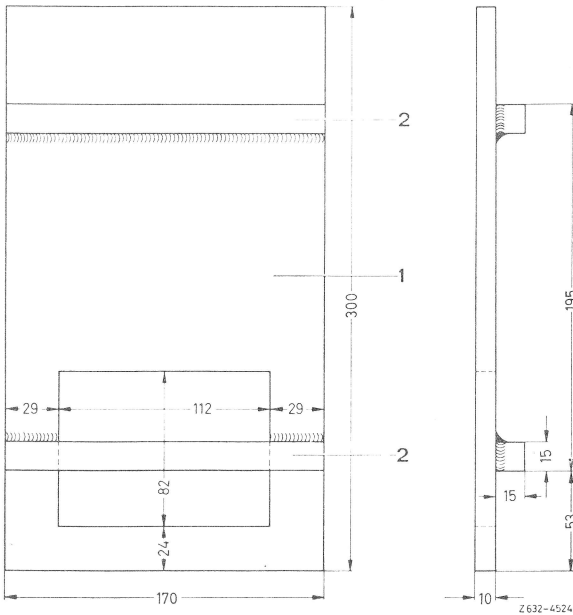

Fig. 3
Note: The supplementary plate (3) is self-made according to Fig. 3.